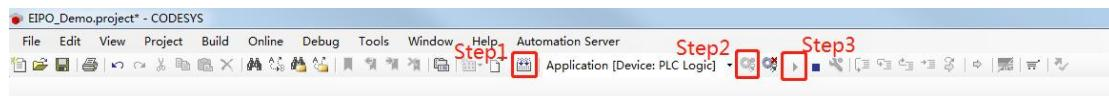

Figure 5-4-20
- As shown in Figure 5-4-20, log in and connect.